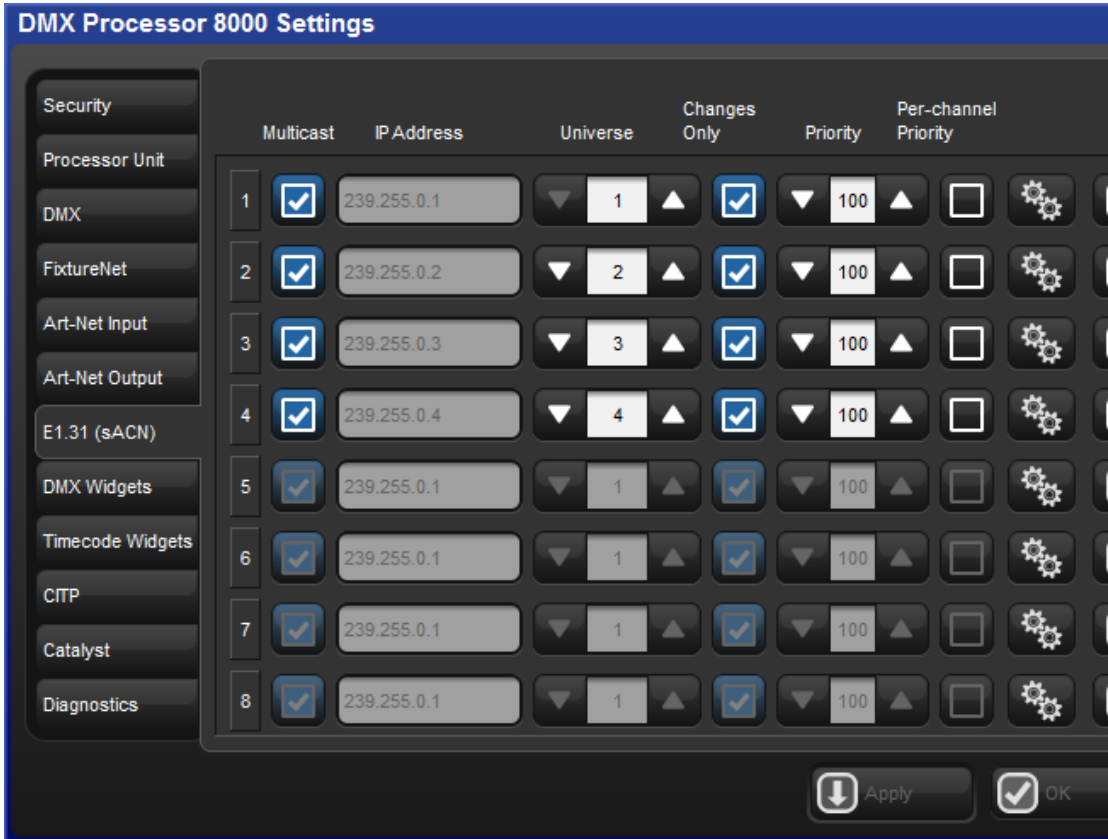

Figure 3.11. E1.31 pane of the DMX Processor Settings window
3. Select the E1.31 pane of the DMX Processor Settings window, see *Figure 3.11*, “E1.31 pane of the DMX Processor Settings window”.